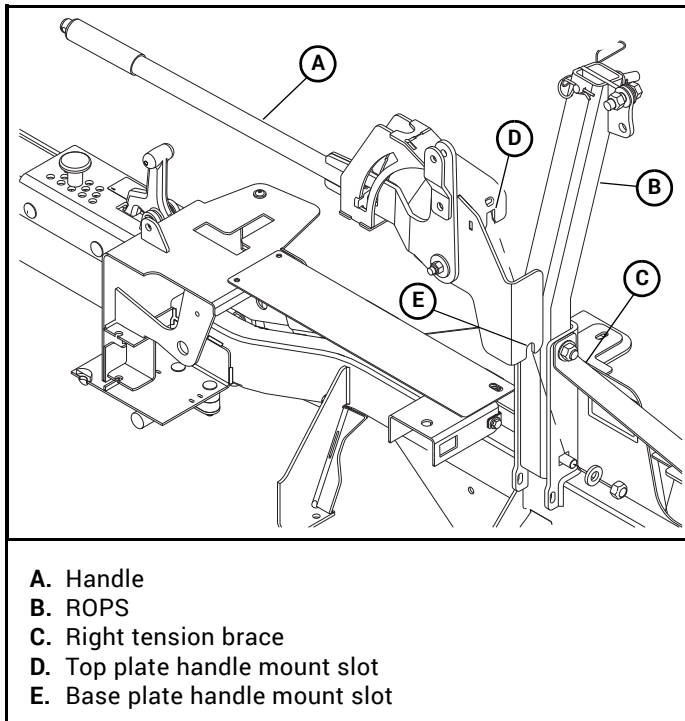
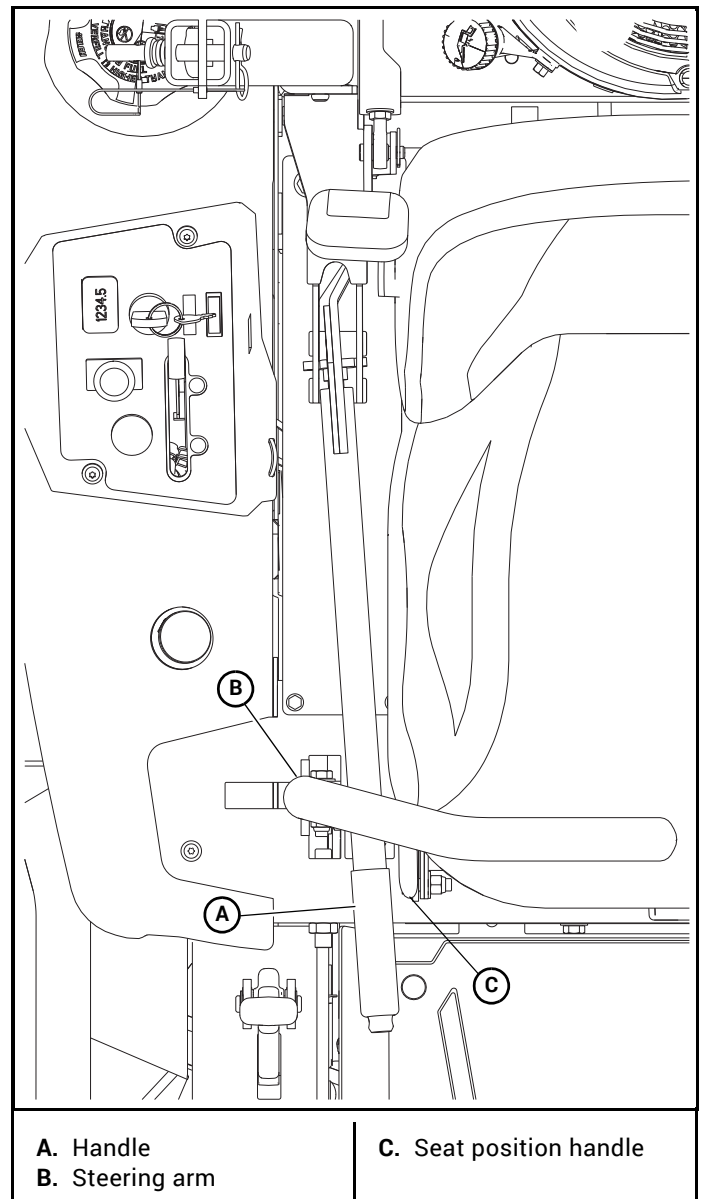

Figure 3-5
Figure 3-7
11. Place the handle assembly on the ROPS pocket as shown. Lightly tighten the hardware on the ROPS. Figure 3-5
13. Inspect the handle position. The handle should be between the steering arm and seat position handle and should not touch on either side. If adjustment is necessary, loosen the ROPS mounting bolts, place the shim provided on the side needing adjusted for proper clearance of the handle. Tighten the ROPS hardware holding the handle in place. Torque to 73 ft-lbs. Figure 3-5, Figure 3-6 & Figure 3-7